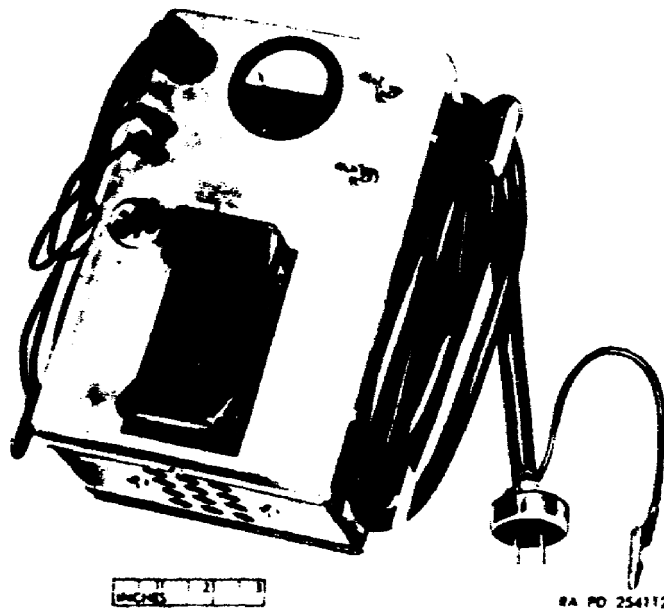

Figure 1. Armature test set.
a. Maintenance personnel perform a wide variety of tests on starter and generator armatures using the armature test set (fig 1). The test set operates on 115-volt, 60-hertz power and is housed in its own steel case. There are three basic circuits in the test set: growler circuit, ammeter circuit, and test lamp circuit.